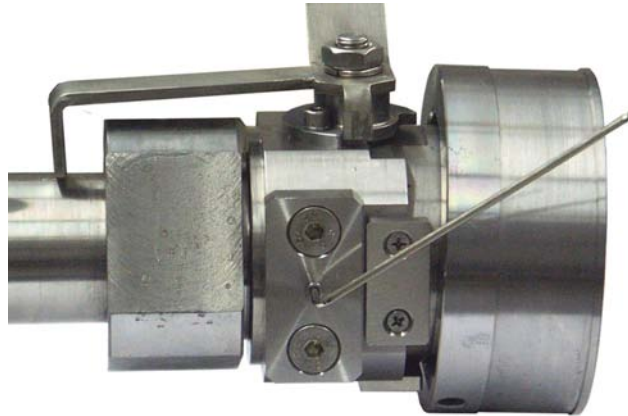

Fig. 3.16: Opening the bypass ball valve (4.3) in the ball valve assembly (4)
- ▶ Open the bypass ball valve (4.3) in the ball valve assembly (4).
To do so, turn the spindle in the bypass ball valve by at least 180° in anticlockwise direction using a 2.5 mm Allen key (see **Fig. 3.16**). The manometer (5.2) at the spindle assembly (5) must show a continuous rise in pressure in the retraction space until the pipeline pressure is achieved. Pressure equalisation should be achieved after max. 2 minutes.